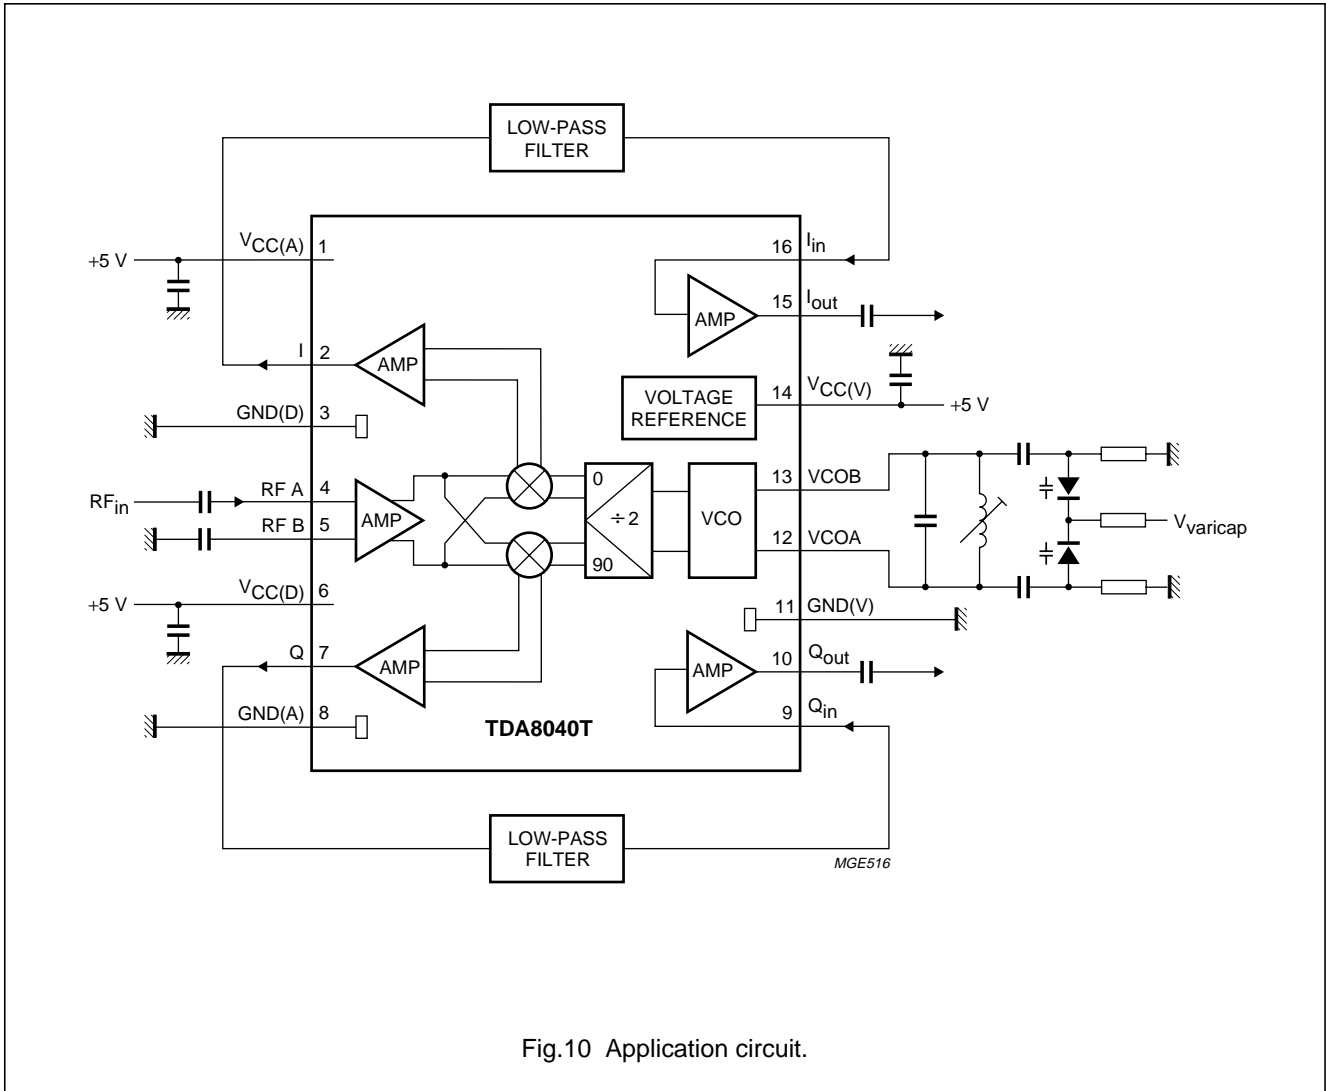

Fig.10 Application circuit.
$V_{CC(A)} = V_{CC(D)} = V_{CC(V)} = 5\text{ V}$; $f_{i(RF)} = 70\text{ MHz}$; $f_{i(VCO)} = 140\text{ MHz}$; $V_{i(RF)} = 67\text{ dB}\mu\text{V}$; $T_{amb} = 25\text{ }^\circ\text{C}$; measured in application circuit of Fig.10; unless otherwise specified.
8. The temperature for the VCO frequency drift is defined for $\Delta T_{\text{amb}} = 25$ °C. It is measured in the application circuit of Fig.10 with the following component values for the tank circuit: